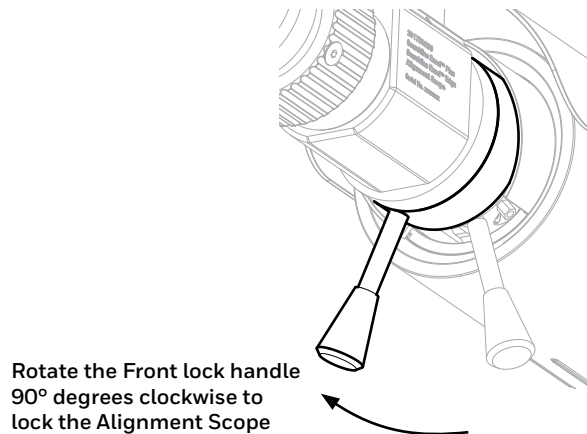

Figure 35. Locking the Alignment Scope
5. With the other hand use Alignment Scope's **Front lock handle** and rotate it 90° degrees clockwise (see Figure 35). This will securely lock the Alignment Scope onto the instrument.